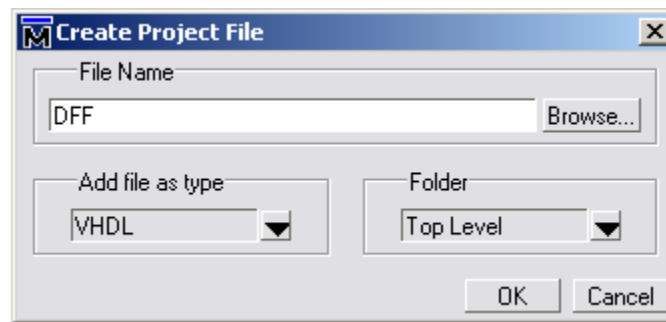

Figure 4: Create Project File Dialog
2. The “Create Project File” dialog box appears. Enter an appropriate file name for your new file, choose “VHDL” in the “Add file as type” field, and choose “Top Level” in the “Folder” field (See Figure 4). For the tutorial, name your new file “DFF.” Hit OK.